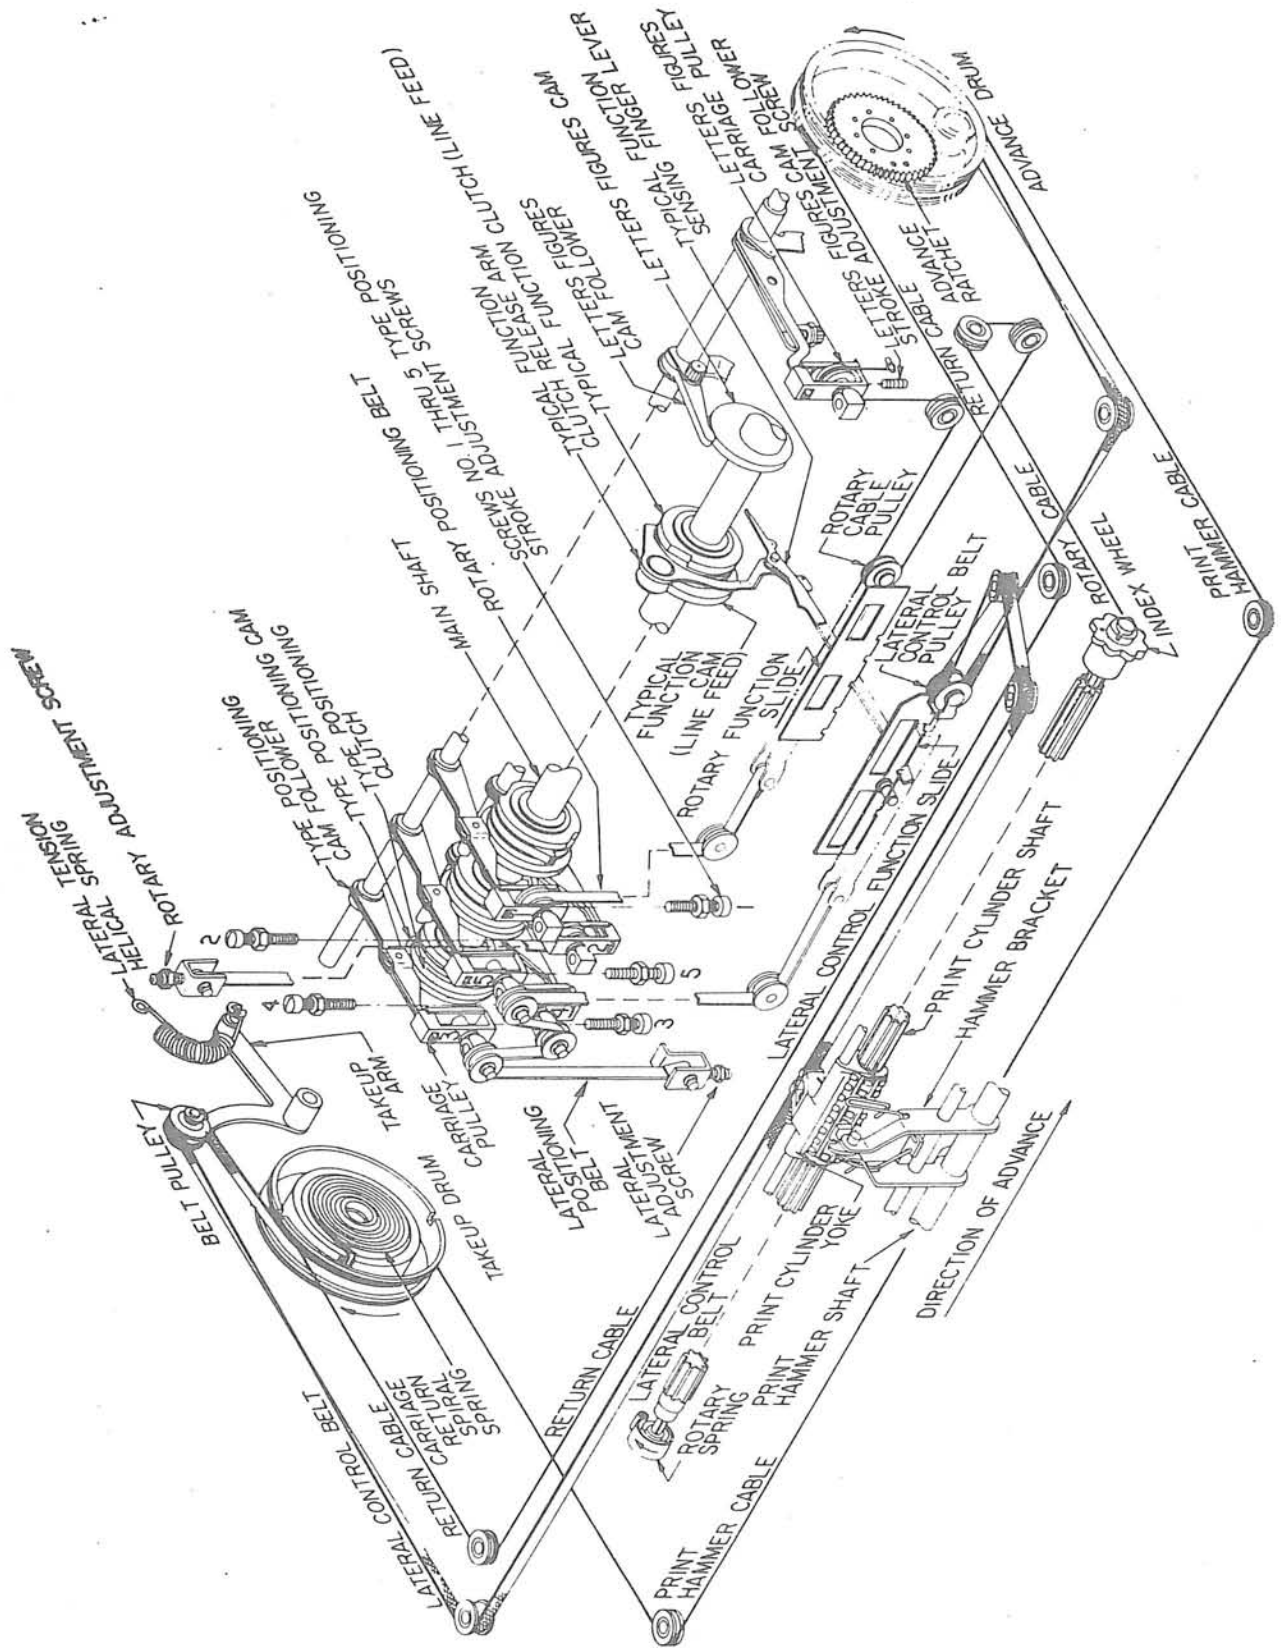
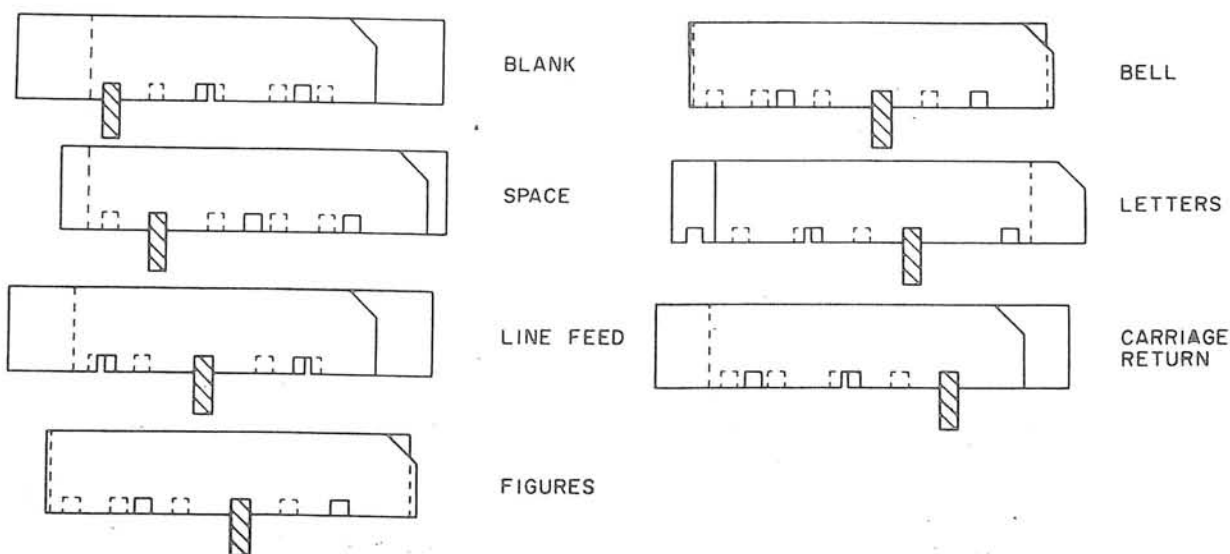

Figure 4-13. Type Cylinder and Print Hammer Positioning System
Figure 4-17. Rotary and Lateral Slides, Function Positions
(See Figure 4-13) - The coding of the incoming signal, as interpreted by the magnetic selector mechanism, determines the position of the five type cylinder positioning cams and their corresponding cam followers. Each cam follower can be left in one of two positions by its positioning cam as follows:
When the letter A is commanded (mark pulse on 1 and 2, and space on 3, 4, and 5) all of the cam followers will be positioned on the high portions of their respective cams. Upon command of the letter M (space on 1 and 2, and mark on 3, 4, and 5), all of the cam followers will be on the low portions of their respective cams. Since each of the cam followers is connected to a pulley carriage (Figure 4-13) the high and low positioning of the cam followers positions the pulley carriages. The positioning belts that pass through the pulley carriages, therefore, are effectively lengthened and shortened by the motion of the cam followers. In practice, carriages number 1 and 2 control motion of the rotary positioning belt and carriages 3, 4, and 5 control motion of the lateral positioning belt.
(a) ROTARY MOTIONS OF TYPE CYLINDER. - As shown in Figure 4-13, the effect of the combination of number 1 and 2 pulses is transmitted through the rotary positioning belt, rotary slide, and rotary cable to the end of the shaft to which the type cylinder is keyed. The cylinder shaft is turned in one direction by the rotary spring and in the other by the rotary cable pulling against the spring. The stroke of pulley carriage number 1 is $3/32$ inch and the stroke of pulley carriage number 2 is $3/64$ inch. The stroke
(b) LATERAL MOTIONS OF TYPE CYLINDER. - The lateral motions of the type cylinder are similarly transmitted from the lateral positioning belt (Figure 4-13) through the connecting shaft, lateral slide, and the lateral belt to the type cylinder yoke. The actual strokes of the pulley carriages are as follows:
As shown in Figure 4-13, the lateral belt, hammer cable, and return cable originate in the advance drum. The advance drum is rotated by the action of a pawl on the advance ratchet. As the advance drum rotates counterclockwise, the hammer cable and lateral belt advance the hammer and type cylinder toward the right side of the page, tightening the spring in the takeup drum. This advance continues across the page until, at a preset point, the advance ratchet and pawl system releases the advance drum and the spring-loaded takeup drum returns the type cylinder and hammer to the left side of the page. The return cable serves to counteract the effects of inertia during carriage return by combining the rapid clockwise motion of the advance drum with corresponding counterclockwise motion of the takeup drum.
The lateral selection motions of the type cylinder are completely isolated from the step-by-step advance and carriage return motions by interposing the lateral transfer pulley (Figure 4-13) between the advance drum and the type cylinder to introduce lateral
The rotary motions (letters-figures and type positioning) of the type cylinder are completely isolated by interposing the rotary transfer pulley (Figure 4-13) between the letters-figures cam follower and the type cylinder shaft, and the use of a rotary spring on the end of the type cylinder shaft.
(6) FUNCTION SELECTOR. - As shown in Figure 4-13, the rotary and lateral positioning belts terminate at slotted plates. These plates, which are called rotary and lateral function slides, are used to select mechanical functions as distinguished from the normal printing of a character. The slides are part of the function selector mechanism which serves to sense various mechanical functions and select the particular function to be performed. Through movement of the five pulley carriages (Paragraph 4-3f(5)), various combinations of marking and spacing pulses will cause the slides to move in lateral directions in relation to each other.
In figure 4-17, the slots in the rotary and lateral slides are arranged so that a particular combination of pulses will align a pair of slots in the two slides at a point directly opposite a function sensing finger and permit the sensing finger (Figure 4-13) to engage the slots. A sensing finger will engage the two slots only momentarily to sense the mechanical function requested and will then be pushed back and out. A separate function sensing finger is provided for sensing each of the mechanical functions shown in Figure 4-17. After sensing the mechanical function established by positioning the rotary and lateral slides, the function selector engages the appropriate clutch on the function mainshaft to perform the function. The particular combination of incoming pulses required for different functions and the mechanical results are listed in Table 4-1.